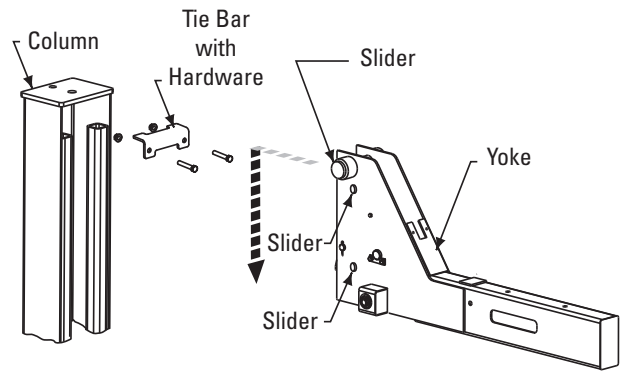

Fig. 12
8. Lay column down, with back of column to the floor. Remove tie bar attached near the top of column tubes. Remove latch bar threaded rod from hole in top plate and lay latch bar flat in column. Slide yoke into the top of the column and slide to bottom of column, Fig. 12. Reinstall the tie bar. Reinsert latch bar through top plate.